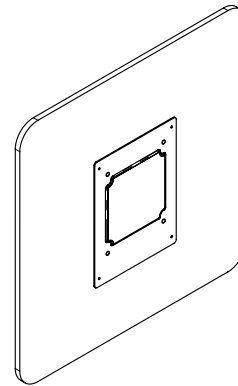

FIGURE 4
6. Attach the Flush Cover plate to the Flush Cover brackets with the securing nuts. (See Figure 4)